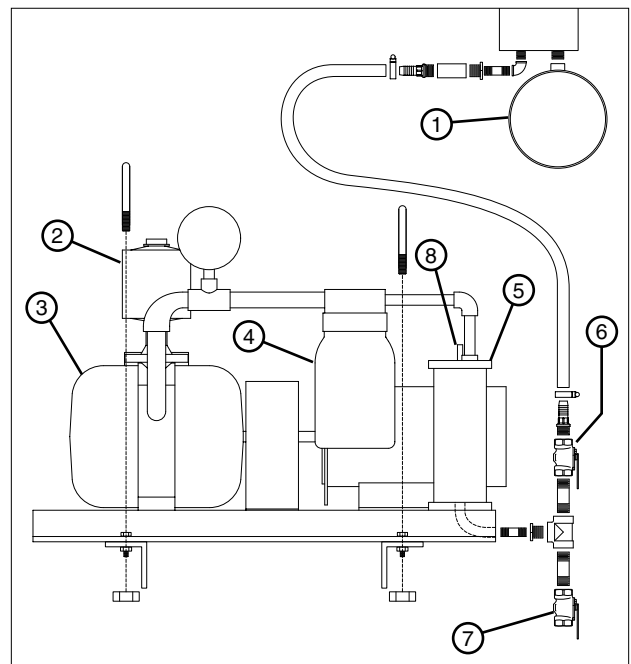

Figure 65-2 1. Suction Inlet Pipe
2. Depress the manual plunger on top of the water trap to allow water to draw-down. See Figure 65-2.
3. If necessary, open the drain cock valve for full drainage. See Figure 65-2.